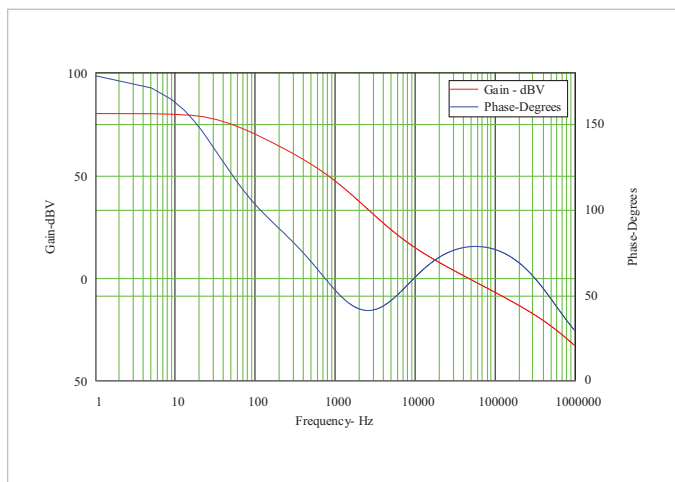

Figure 58 — PI354X Output-Input Gain/Phase
The transfer function of the error amplifier and compensator (also known as the Input To Control transfer function) reveals the response of a Type II amplifier with a low frequency pole determined by Equation (6), a zero which sets the mid-band gain determined by Equation (7) and a high frequency pole determined by Equation (8). Figure 58 shows the calculated Input To Control transfer function. Multiplying Equation (3) by Equation (5); described by Equation (9), results in the total loop gain (also known as the Output To Input transfer function). A graph is shown in Figure 58. The strategy is to set the zero such that the mid-band gain allows a high crossover frequency while providing maximum phase boost at crossover, with proper gain and phase margin.